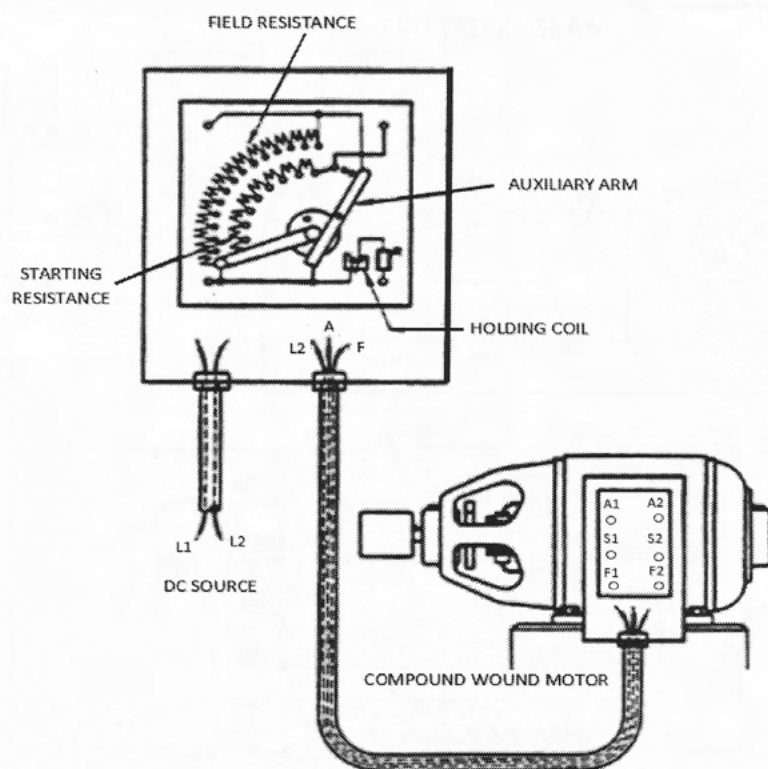

Figure 7
2. Complete the connection in (figure 7), so that the compound motor is properly connected to the device indicated. Have the motor rotate CCW.